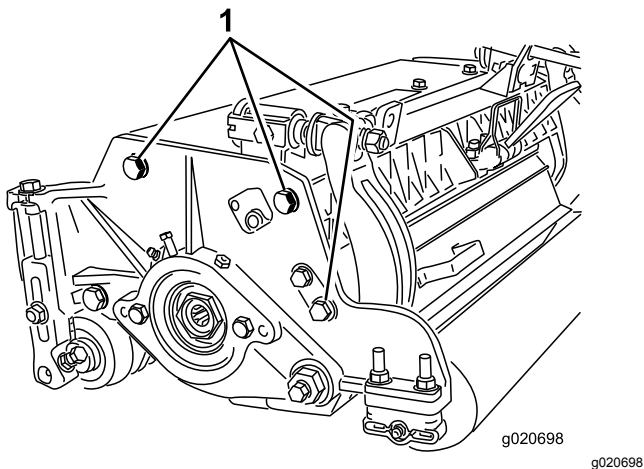

**Figure 14**
1. Adjust the rear roller brackets (Figure 14) to the desired height-of-cut range by positioning the required amount of spacers below the side-plate mounting flange (Figure 14) per the HOC Chart.